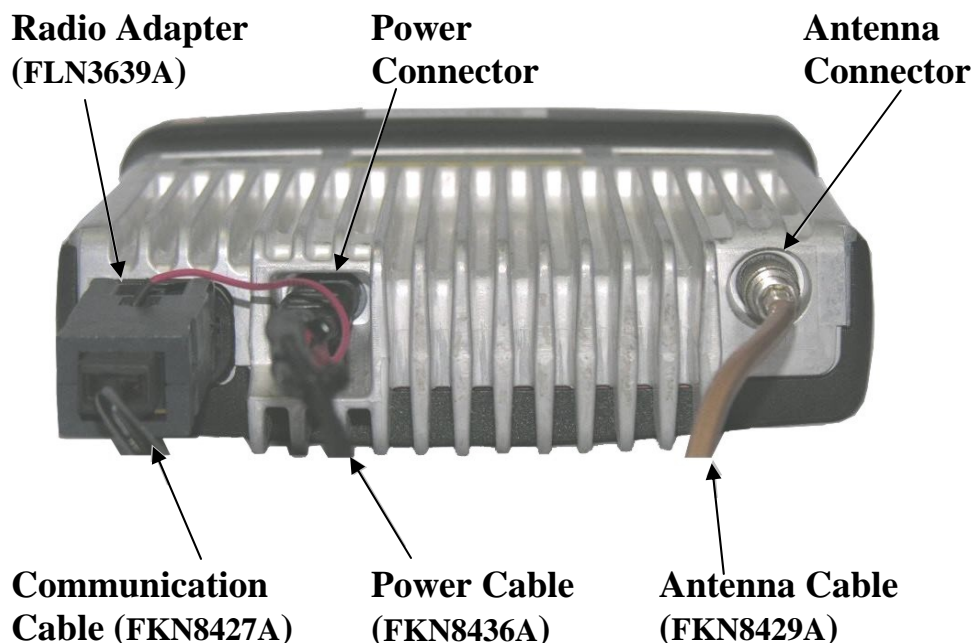
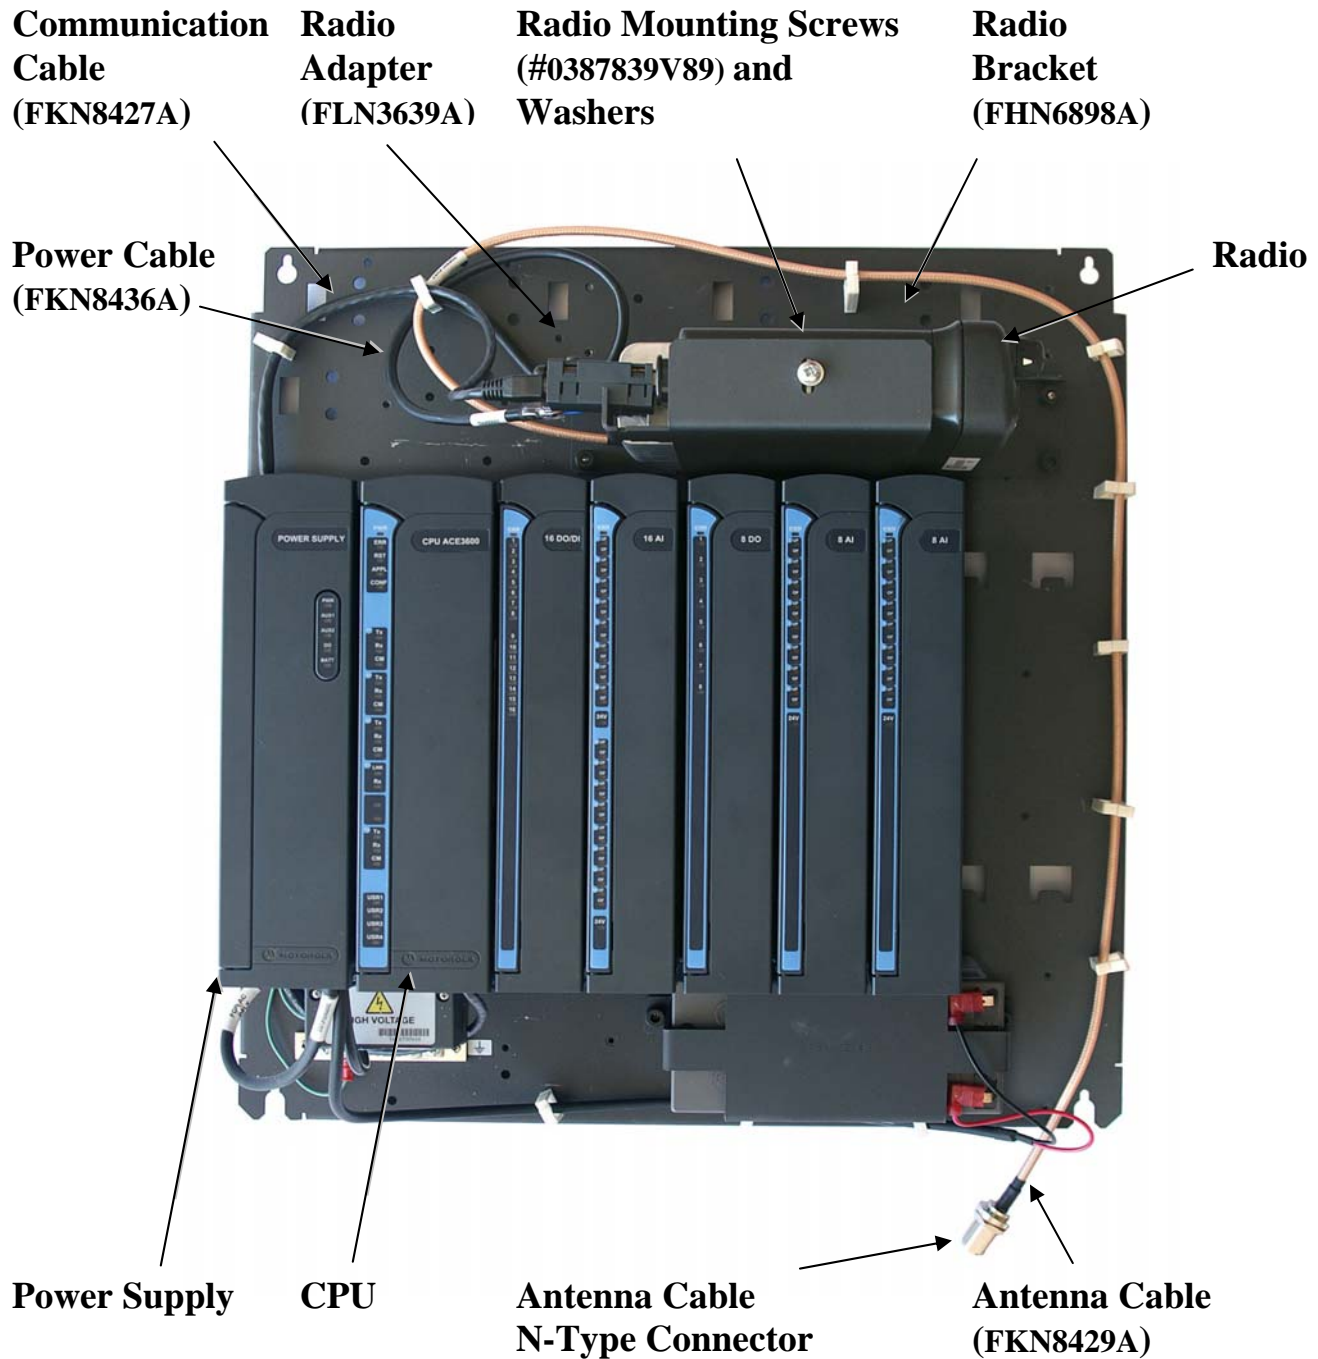

Figure 21-14 CDM750 Antenna, Power and Communication Cable Connections
Figure 21-16 CDM750 Radio Installed on ACE3600 Chassis
2. Connect the radio adapter (FLN3639A) 16-pin connector to the radio Accessory connector (See Figure 21-14.)
4. Connect the antenna cable (FKN8429A) to the Antenna connector on the radio and to the opening on the bottom of the ACE3600 RTU housing, using the four supplied screws. See Figure 21-14 and Figure 21-16.)
6. Attach the complex (radio + bracket) using the four supplied screws to the ACE3600 chassis. See Figure 21-16 below.